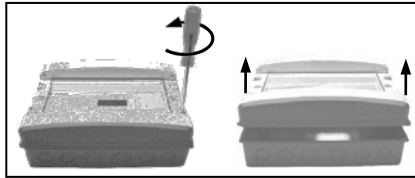

Fig. 2
2. Unscrew the 4 screws with a suitable flat screwdriver and remove the lid (Fig. 2).